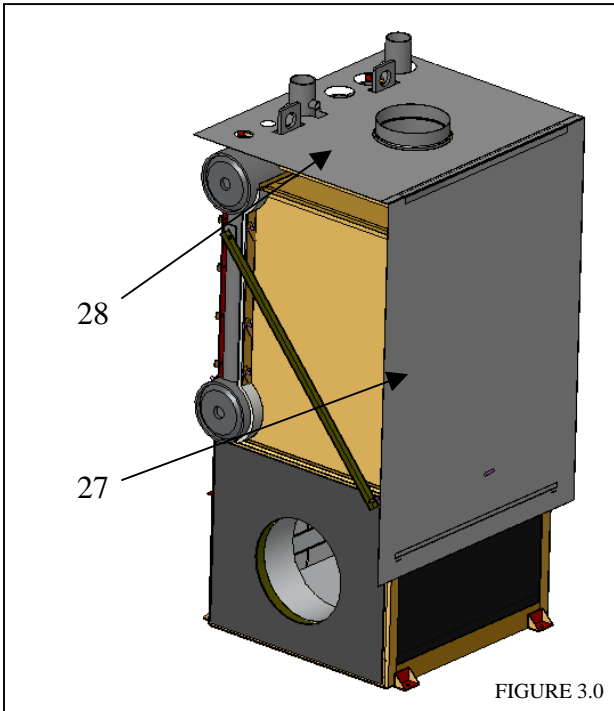

FIGURE 3.0
- 3.1 Place boiler jacket top panel (Item #28) in place. See Fig. 3.0
- 3.2 Place jacket side panel (Item #27) upon rear edge of the boiler base assembly. See Figure 3.0.